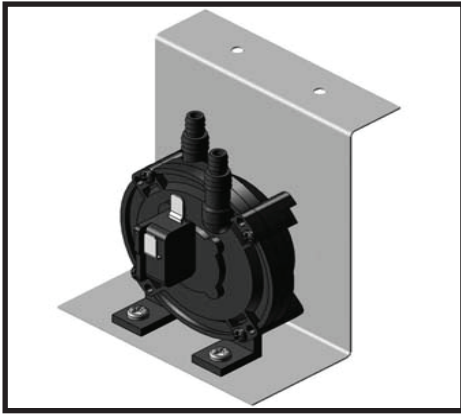

Figure 12: Pressure switch on flat bracket.
1. Remove pressure switch from the flat bracket and attach to the “Stepped” bracket (Figure 12).